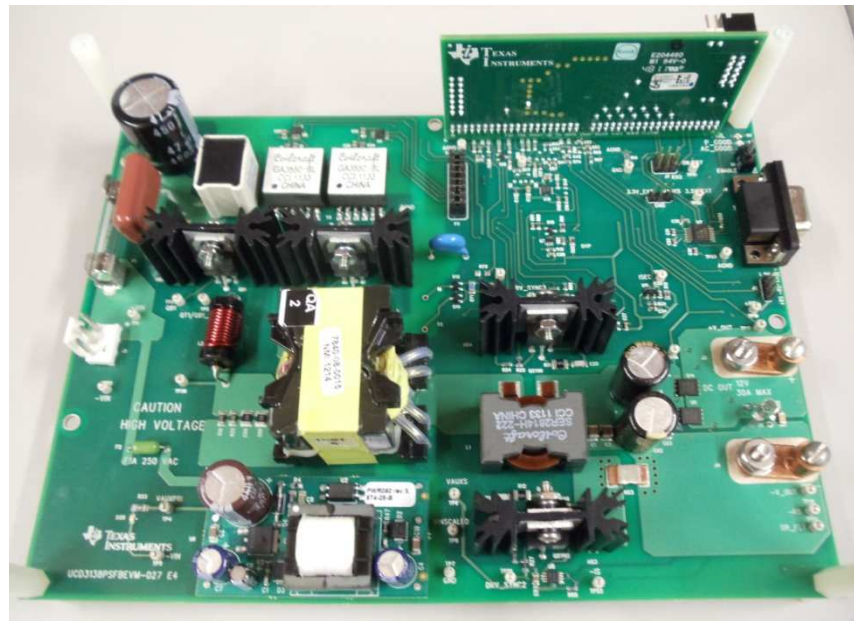

Figure 6. Orientation of the UCD3138CC64EVM-030 Board on the UCD3138PSFBEVM-027 Board
- See Figure 6 for the UCD3138PFCEVM-030 board orientation.